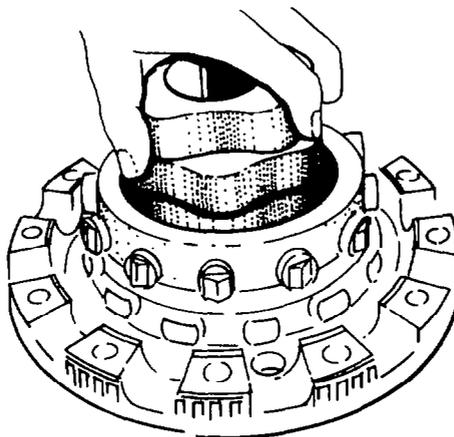

Fig. 297 — Removing Inner Cam
- k. Rotate the inner cam so that all the wedges are fully extended, then remove the inner cam (see fig. 297).